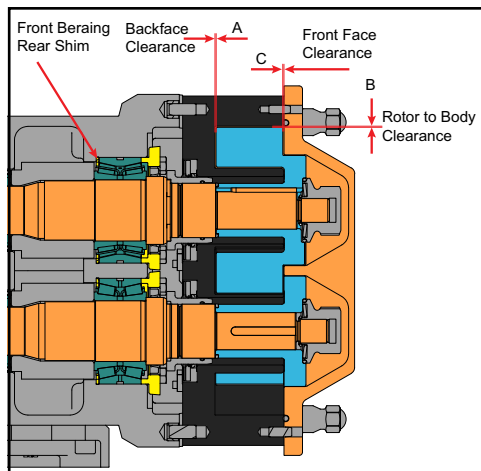

Figure 63 - Clearance Measurements
2. With feeler gauges, measure the rotor backface clearance (Figure 63, item A), through the port or from the front.
3. Measure the rotor front face clearance (Figure 63, item C).
4. Measure the rotor to body clearance (Figure 63, item B).